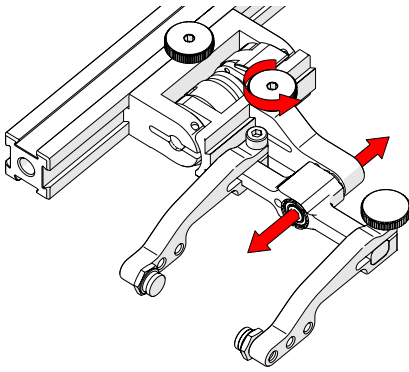

Fig. 89 - Adjust swing arm
3. Use the swing arm knob to position the swing arm (Fig. 89).